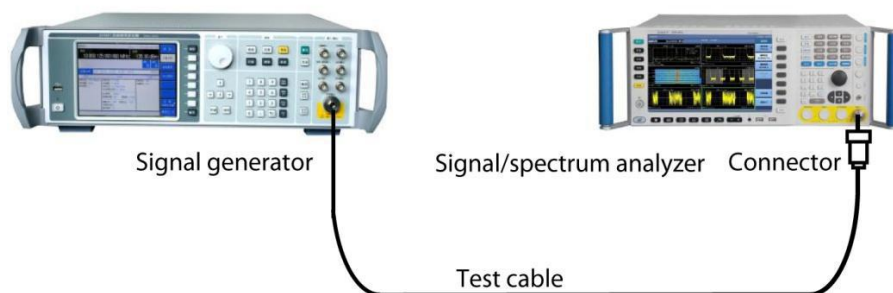

Fig. 4.80 Connection Settings of Spurious Emission Measurements
Step 2: Connect the radio frequency output port of the signal source to that of the analyzer. As shown in Fig. 4.80: